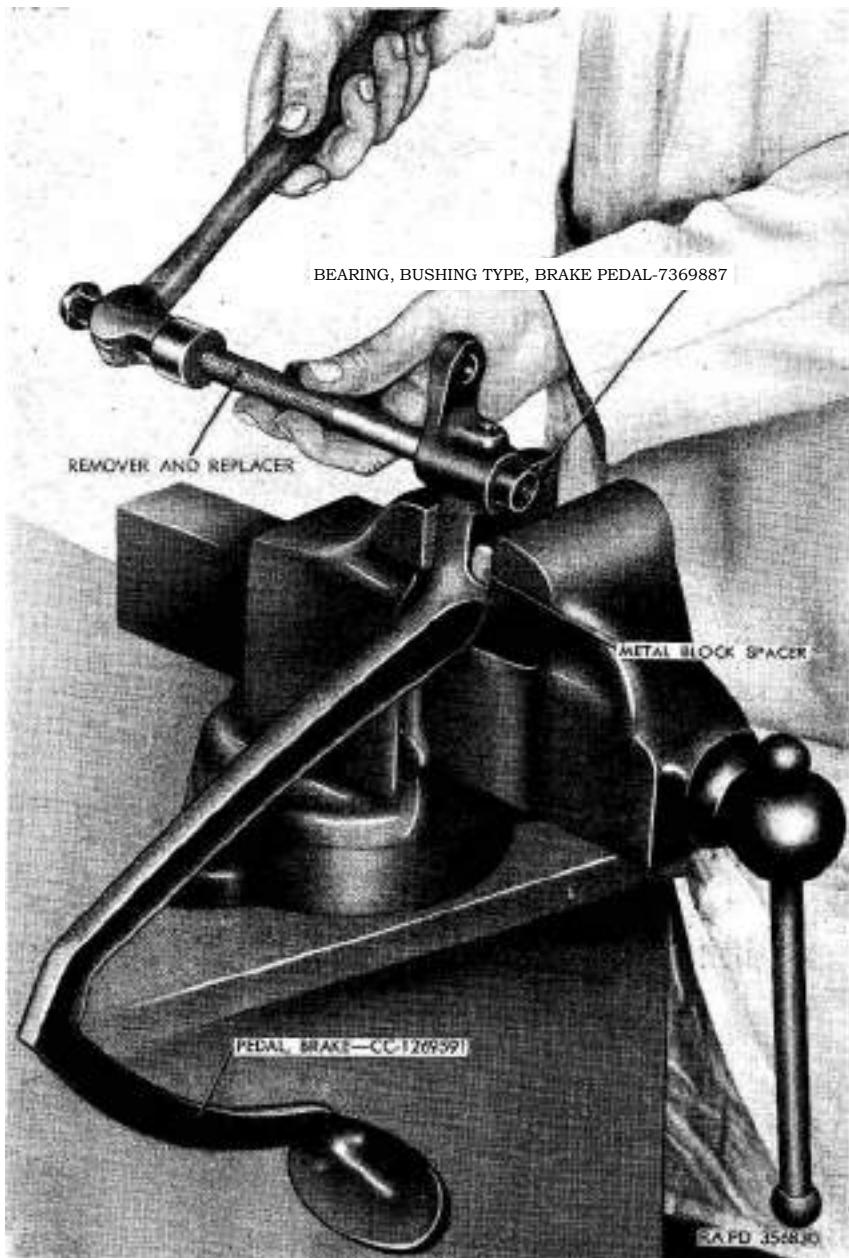

Figure 156. Removing brake pedal bushing-type bearing from brake pedal with a bushing remover and replacer.
- (1) Remove $45^\circ \frac{1}{4}-28NF$ lubricating fitting (B) from brake pedal.
- (2) If inspection (par. 177) reveals that replacement of brake pedal bushing-type bearing (L) is necessary, remove bearing from brake pedal (A) with a bushing remover and replacer (fig. 156).
Note. To prevent possible damage to brake pedal, a suitable metal block spacer (fig. 156) must be placed between pedal and vise jaw.